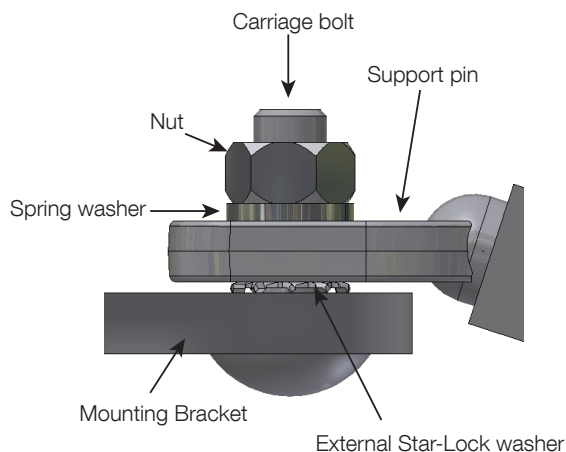

Figure 1- Fuse cut-out attachment to mounting bracket
2. Mount the fuse cutout on the mounting bracket, as shown in Figure 1, with the carriage bolt nut but loose enough for pivot adjustment.
(Note: Place the external star-lock washer between the fuse cutout support pin and the mounting bracket. See Fig.1.)